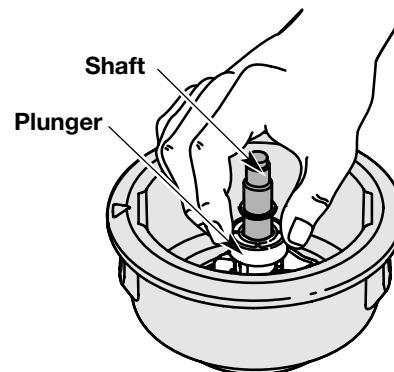

Fig. 25
5. Clean the shaft and the inner surface of the outer spool. To clean the shaft underneath the plunger, press down on the plunger (Fig. 25). Remove any dirt or debris from the shaft.